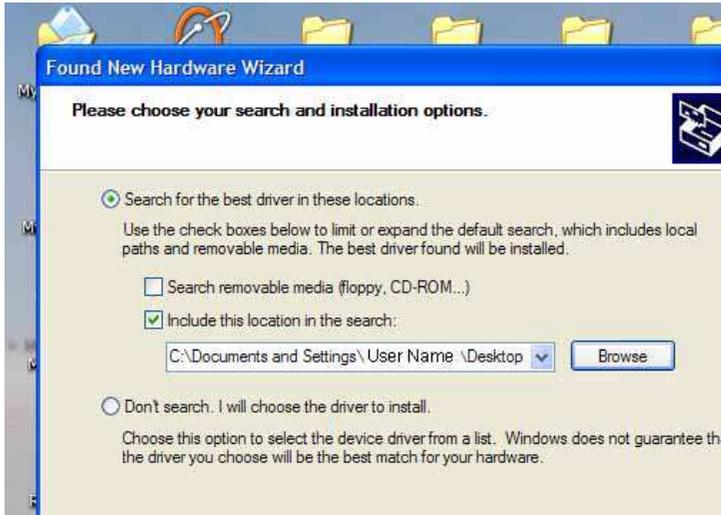

Figure 7
- 3) The next dialogue box prompts you to choose where to find the drivers (figure 7) :